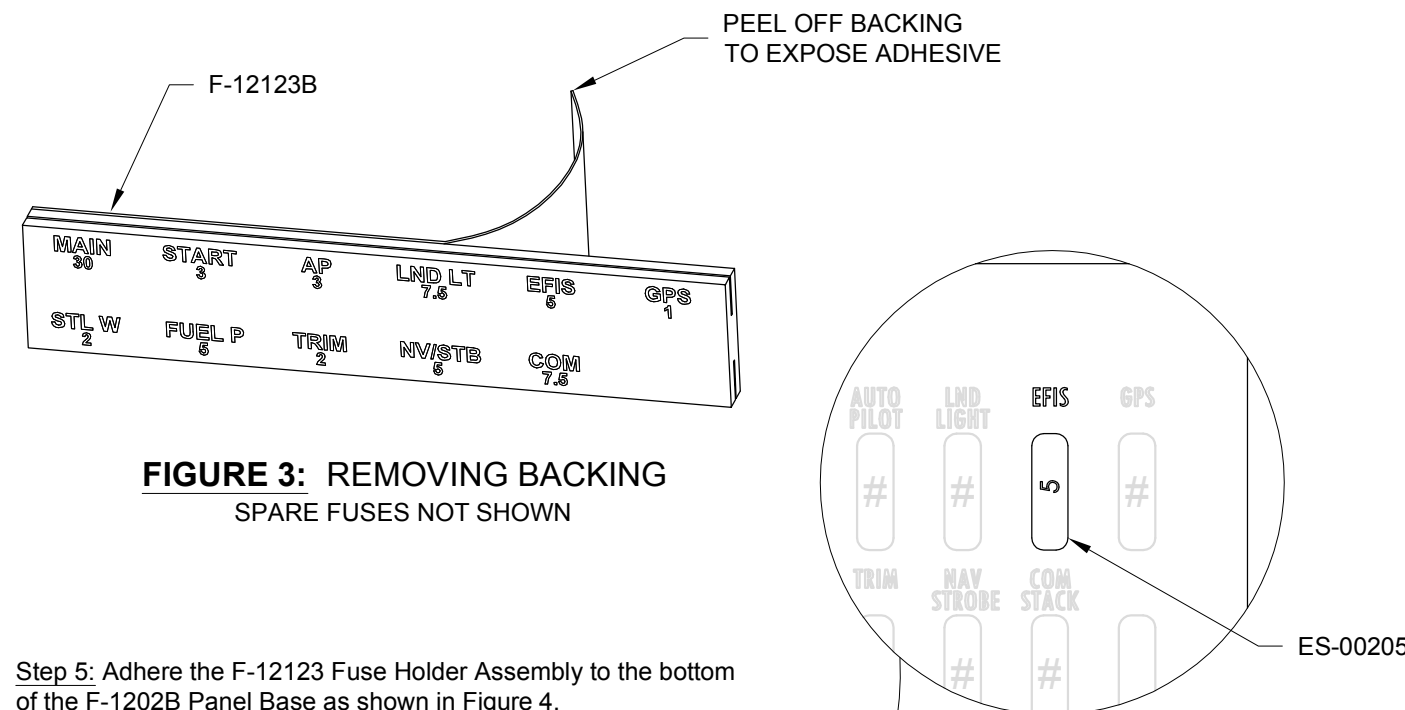

FIGURE 3: REMOVING BACKING
Step 4 (PRECONST): Peel off the backing of the other side of the F-12123B Double Sided Velcro Tape as shown in Figure 3.
Step 4 (POSTCONST): Remove and discard the redundant half of the F-12123B Double Sided Velcro Tape provided in the kit. Attach the remaining half to the back of the F-12123 Fuse Holder Assembly. Peel off the backing of the double sided velcro tape as shown in Figure 3.